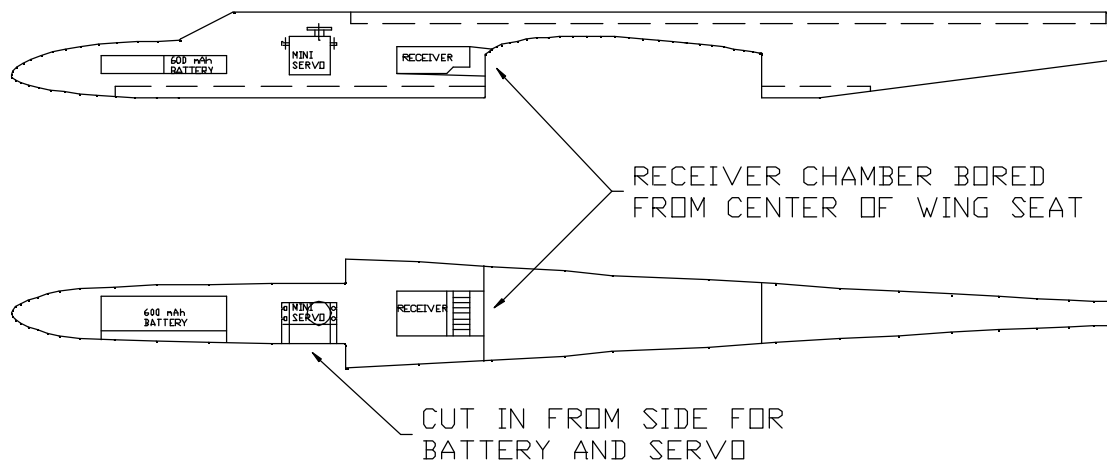

Figure 7
- ❑ Fit the servo behind the battery in the approximate location shown in figure 7. Be sure the servo is deep so the control horn does not protrude above fuselage skin.